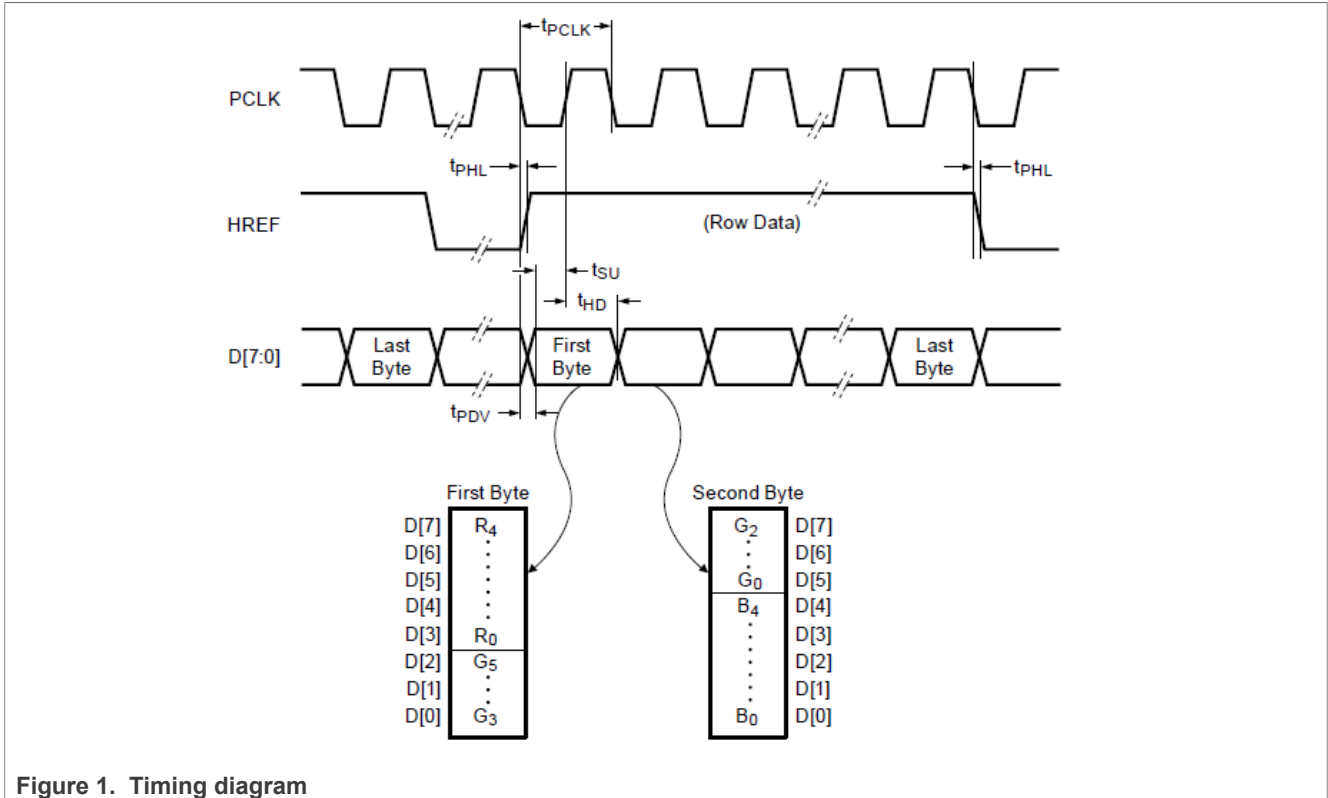

Figure 1. Timing diagram
1. The camera module must be configured in the RGB565 mode with the timing diagram shown in Figure 1.